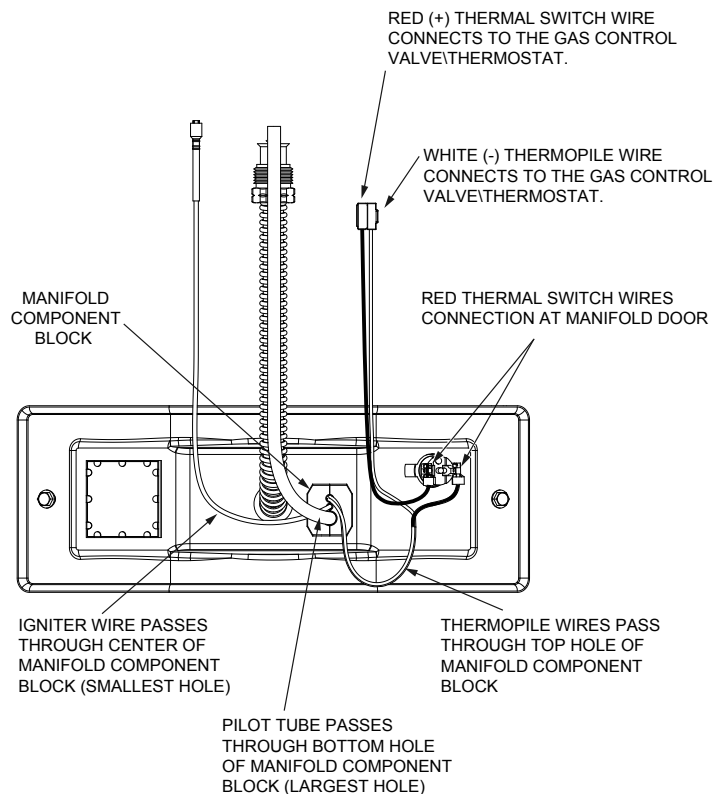

FIGURE 25.
9. Reinstall the manifold component block in the manifold door. Ensure that the pilot tube and wires are positioned as shown in Figure 25.